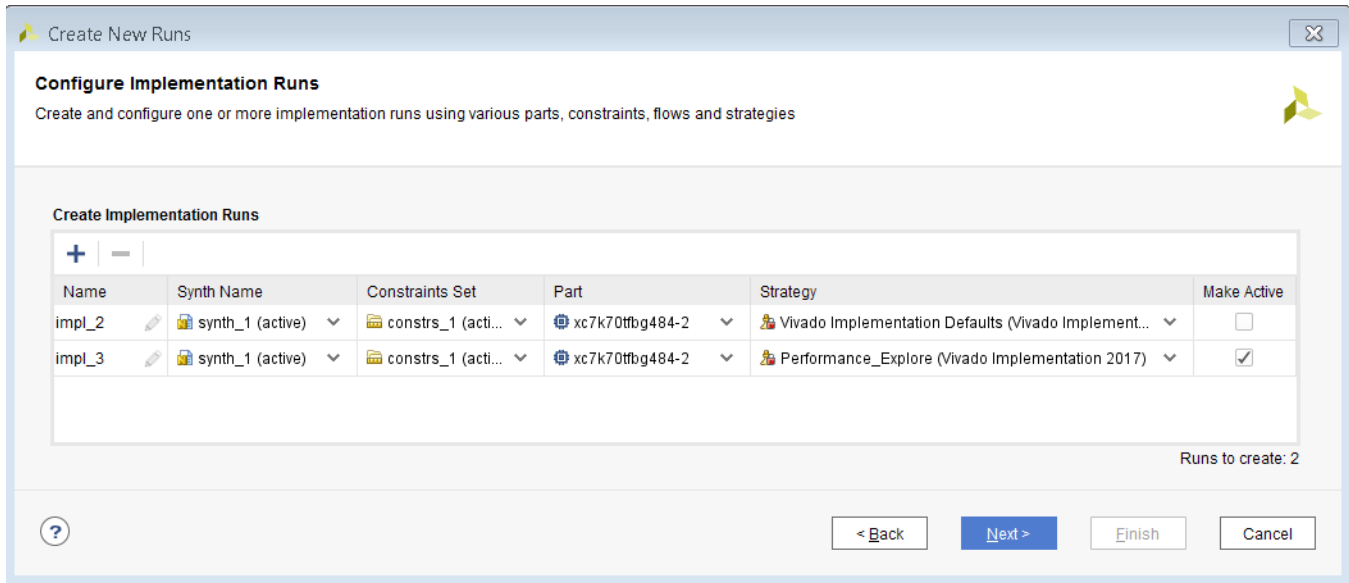

Figure 2-1: Configure Implementation Runs
3. The Configure Implementation Runs screen appears, as shown in Figure 2-1. Specify settings as described in the steps below the figure.
- f. Click **More** to define additional runs. By default, the next strategy in the sequence is automatically chosen. Specify names and strategies for the added runs. See Figure 2-1, above.